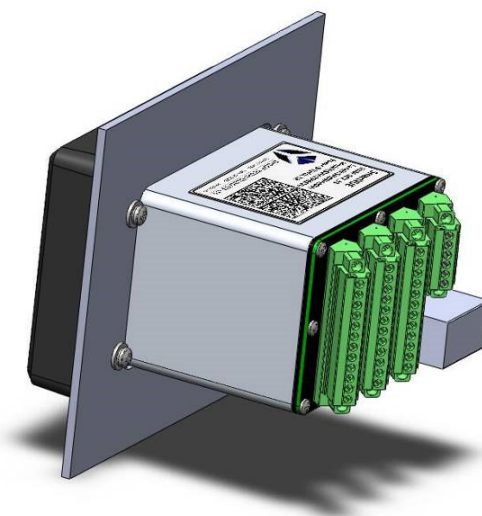

Figure 21-4 SmartVue installed in panel
4. Secure the SmartVue using the supplied screws and washers, as shown in Figure 21-4. A mounting kit with three sets of different length screws is supplied for installation into panels of varying thickness.